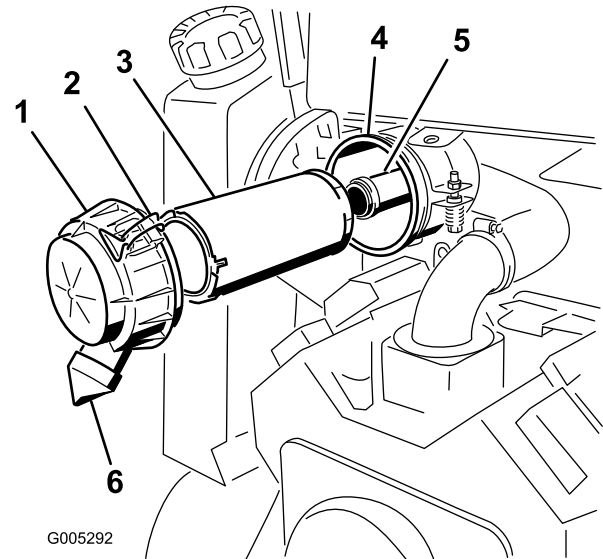

Figure 19
2. Release the latches on the air cleaner and pull the air cleaner cover off of the air cleaner body (Figure 19).
6. Gently slide the primary filter out of the air cleaner body and discard it (Figure 19). Avoid knocking the filter into the side of the body.
7. If you are also replacing the safety filter, gently slide it out of the air cleaner body and discard it (Figure 19).. Avoid knocking the filter into the side of the body.
2. If you are replacing the safety filter, carefully slide it into the air cleaner body (Figure 19).. Ensure that it is fully seated by pushing firmly on the outer rim of the filter while installing it.
3. Carefully slide the primary filter into the air cleaner body (Figure 19).. Ensure that it is fully
4. Install the cover, spacer and secure it with the cover nut (Figure 19). Torque the nut to 95 inch-lb (11 N·m).
5. Install the air cleaner cover with the rubber outlet pointing down in a 5:00 to 7:00 position (viewed from the end)(Figure 19) and secure it with the latches..